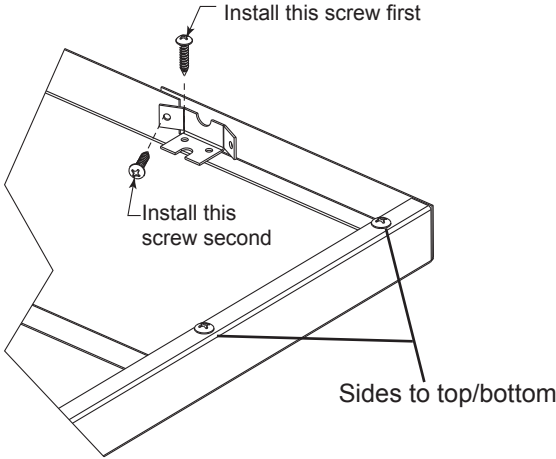

Figure 2
4. Screw face parts together using eight (8) #8 x 3/8" Truss-head screws included in the face kit, *Figure 2*, (If assembling WCSS model, use 8 18 x 1/2" SS screws.)
5. Install the supplied #8 x 3/4" screws into the bracket at each corner of the face to eliminate gaps that may be present on the front and sides of the face where parts meet. Do not over-tighten. The screw which is perpendicular to the face should always be installed first. *Figure 2*